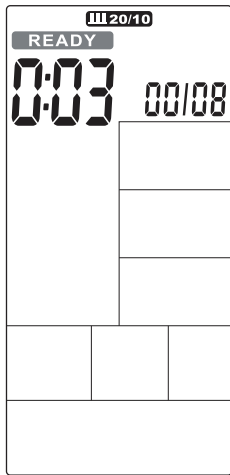

FIGURE 24
- The time counts down from 3 to 0, then the console will start, while an audible alert will sound once per second and the word READY flashes once per second, displaying the count '00 / 08' (Figure 24).